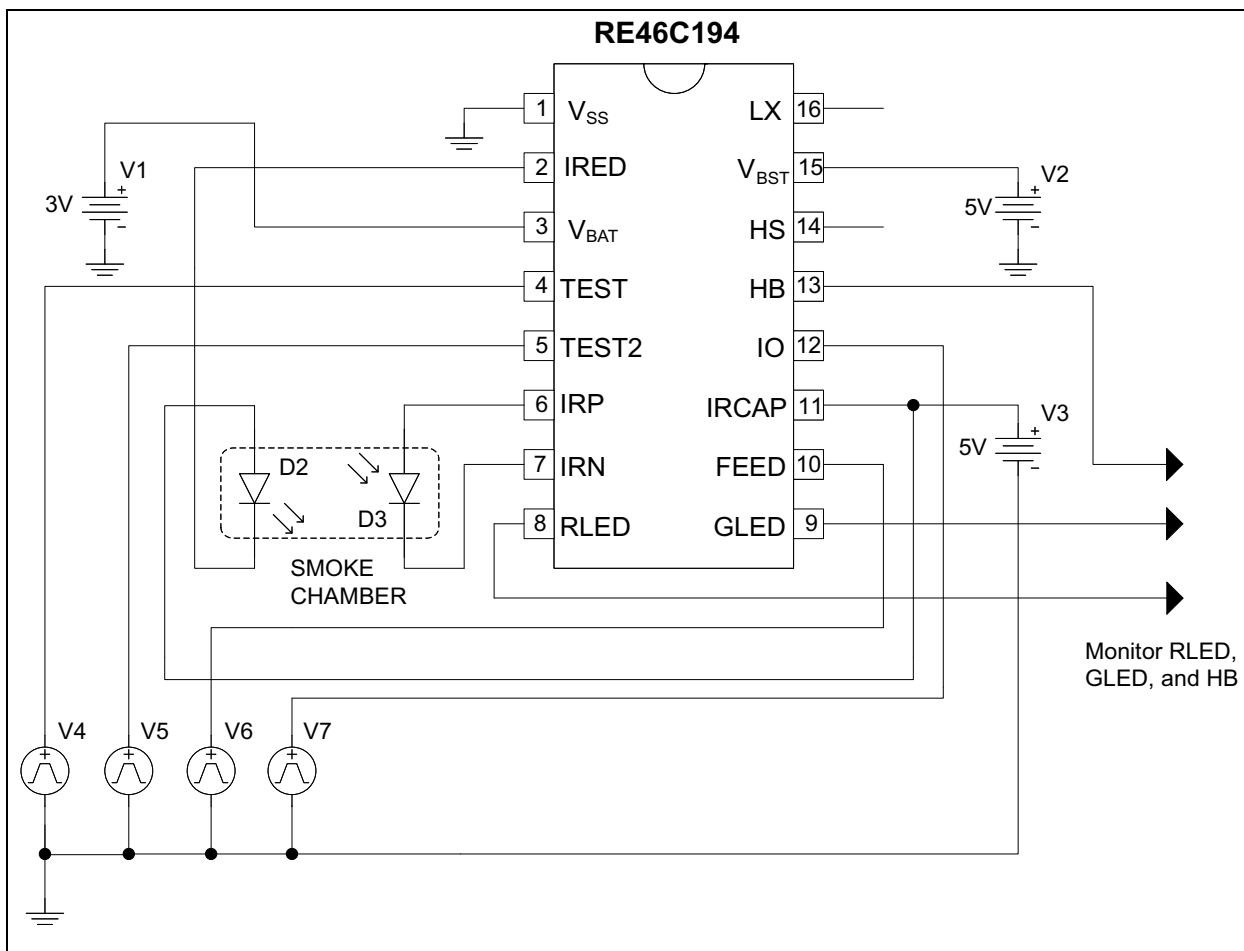
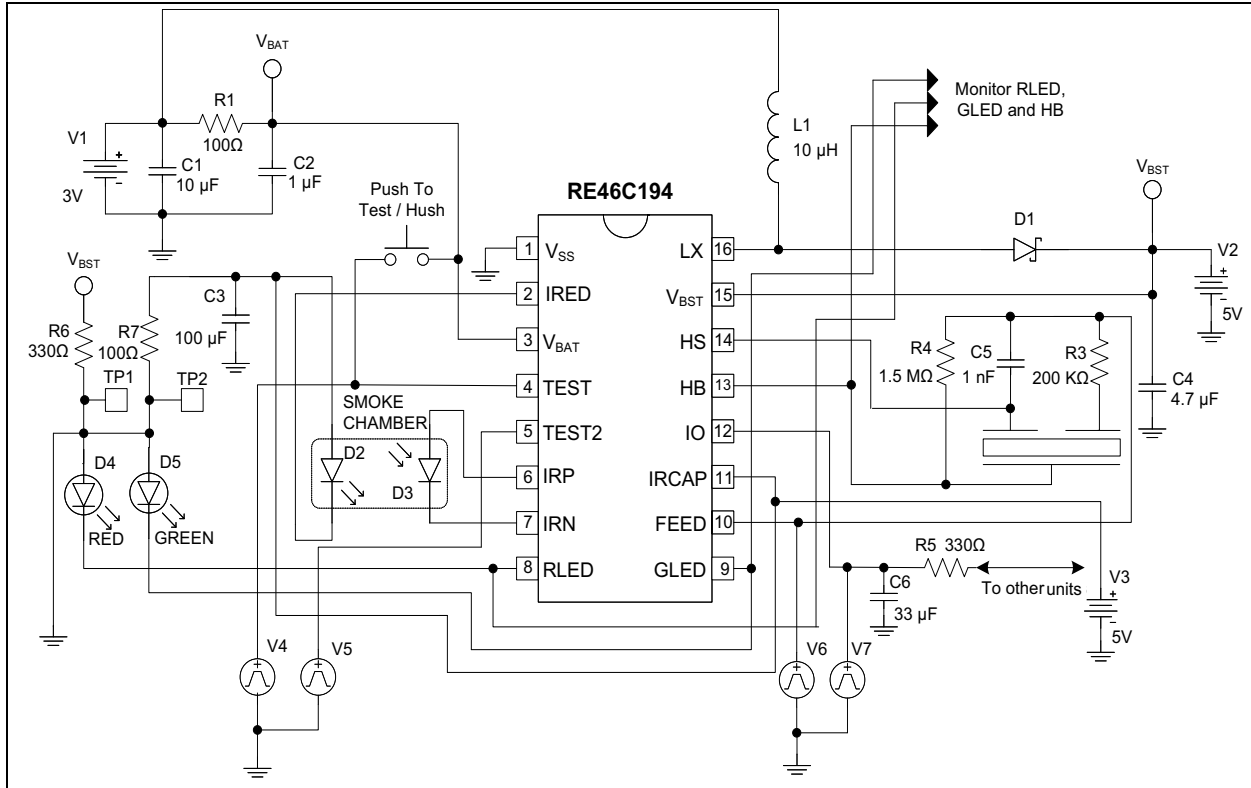

FIGURE 4-3: Nominal Application Circuit for Programming RE46C194.
FIGURE 4-5: Circuit for Programming in the RE46C194 Typical Application.
1. Power-up with bias conditions as shown in Figure 4-3 or Figure 4-5.
1. Power-up with the bias conditions shown in Figure 4-3 or Figure 4-5. Connect pin V_{BST} to 5V through a diode, so pin V_{BST} can enter high boost operation.
1. Power-up with the bias conditions shown in Figure 4-3 or Figure 4-5.